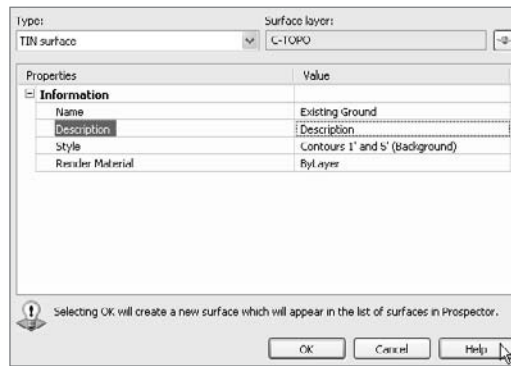

Figure 7.3
4. Verify that the style selected is `Contours 1' and 5' (Background)`. You can also add a description during the surface creation, giving other users an idea of what that surface is representing. Your dialog should look like Figure 7.3. Click `OK` to close the dialog.